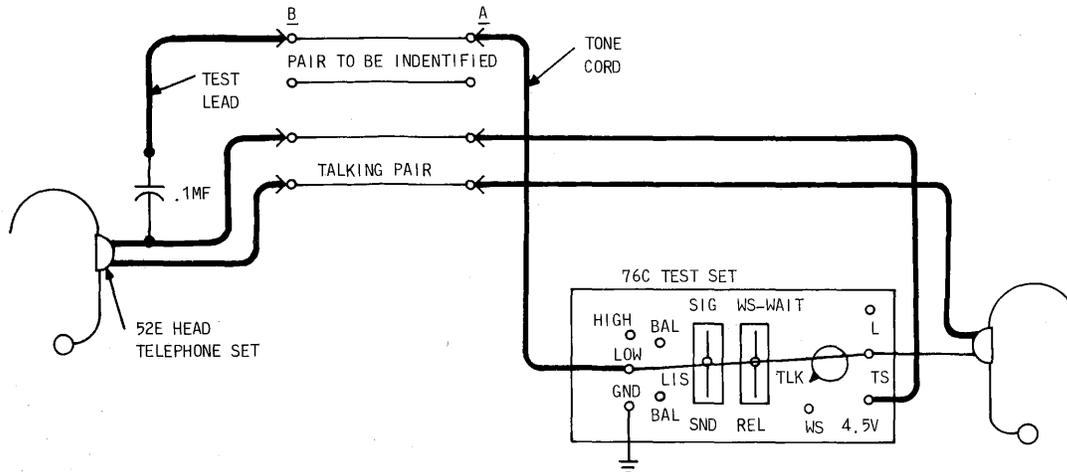

Fig. 2—Grounded Tone Method of Identifying Pairs
2.04 The relay test can be combined with the grounded tone method of identifying pairs in exchange distribution and trunk plant. The connections are made as shown in Fig. 2.